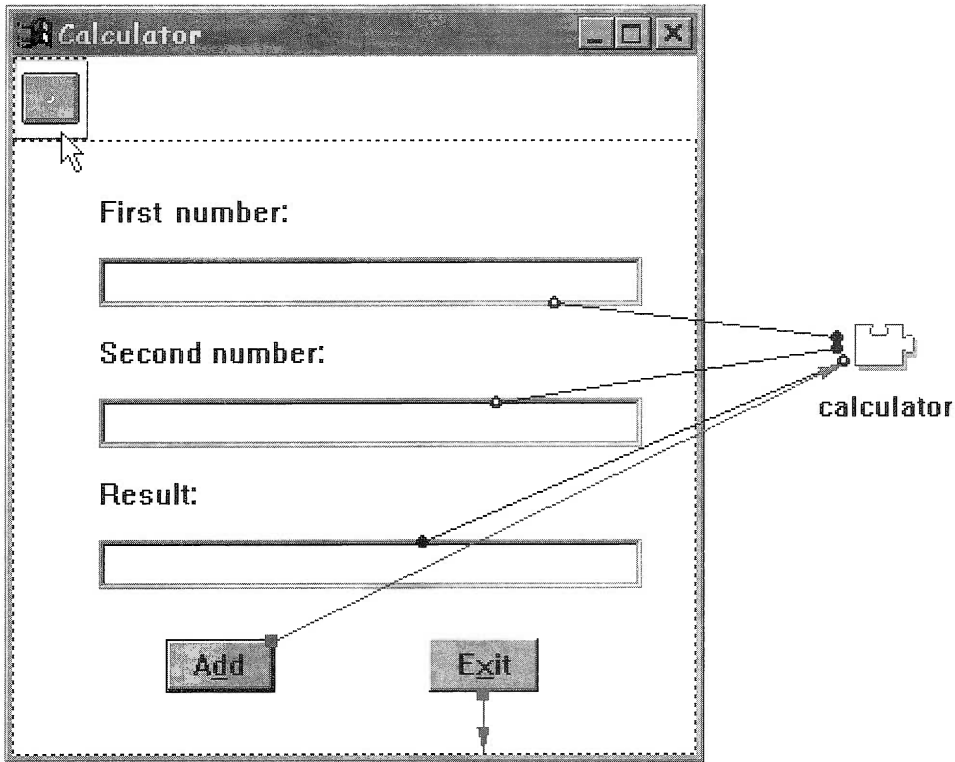

Figure 66: An `IToolBar` control added
- ❑ From the Frame Extensions category, select the **IToolBar*** control and add it to the frame window. In order to place the tool bar control on the frame window, the mouse pointer should be on the title bar of the frame window. The result is shown in Figure 66.
pointer position in Figure 66. This is a very small area on the screen and can be difficult to select. If the mouse pointer is on the title bar, you will accidentally select the settings notebook for the frame window, or if the mouse pointer is on the tool bar button, you will select the settings notebook for the tool bar button.